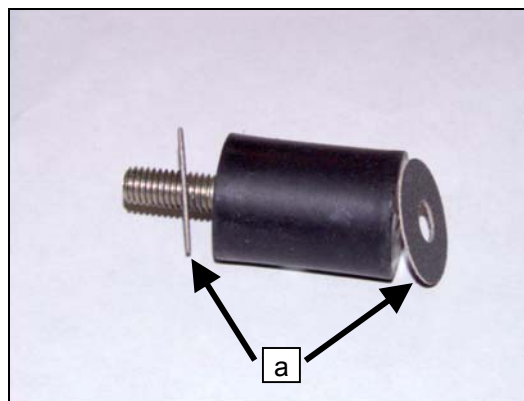

Fig. 13
- To mount the rubber-metal bearings, carry out these steps in opposite order. While mounting the rubber-metal bearings, make sure that there is an anti-twist device (Fig. 13, a) on both sides of the bearing to prevent it from turning.